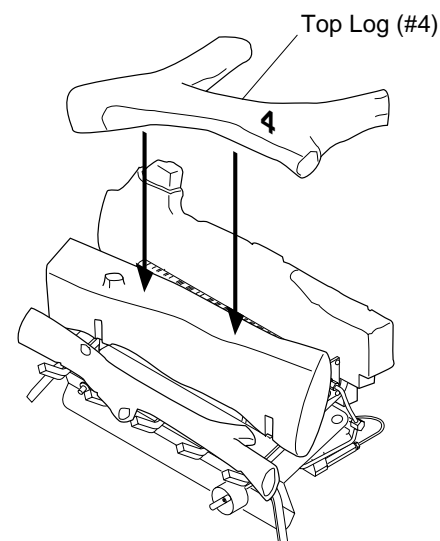

Figure 19 - Installing Top Log
4. Finally place top log (#4) over bottom middle log (#2) by matching the notches under log (#4) with the raised blocks of log (#2) (see Figure 19).